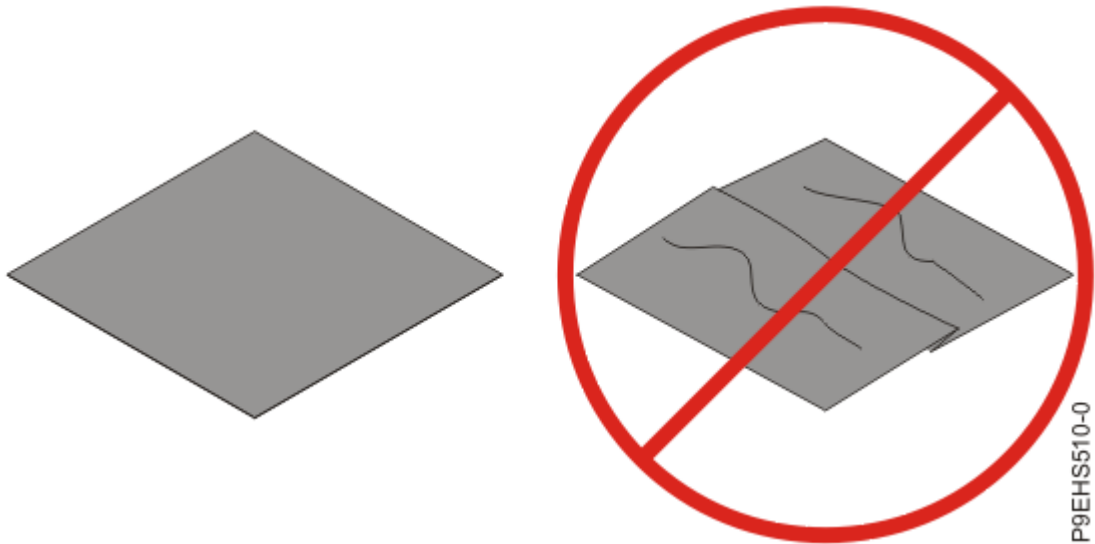

Figure 131. Inspecting the thermal interface material
12. Inspect the thermal interface material (TIM) for visible signs of damage, as shown in Figure 131 on page 146. If you see folds, tears, bends, or if you have doubts about the TIM, replace it.